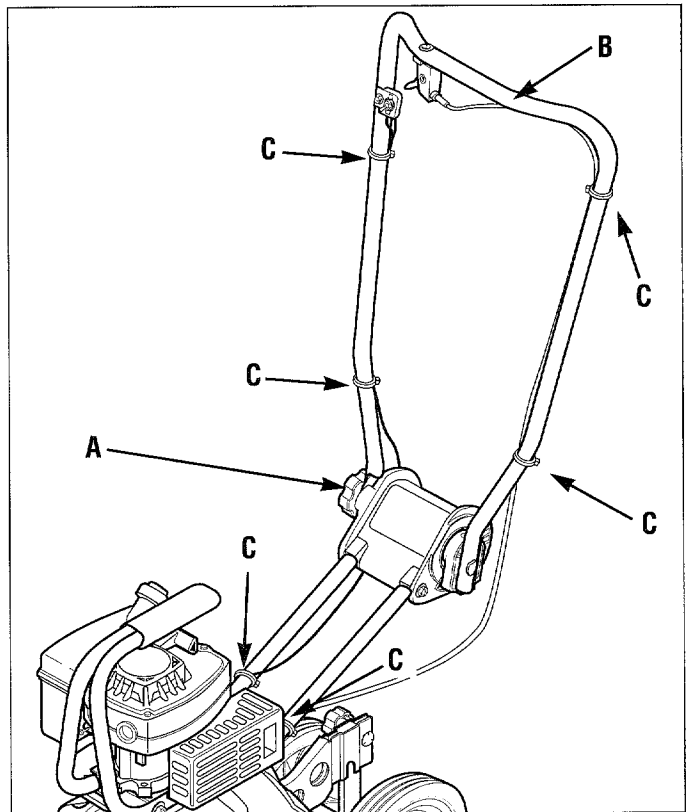

Figure 1: Loosen knob (A). Unfold handlebars (B). Slide plastic ties (C) to the locations shown.
- The unit was shipped with the handlebars folded over in the storage position. (Be careful when you move the upper handlebar not to pinch the control cables running alongside the handlebars. Push the cables out and away before swiveling the handlebar.) Loosen the handlebar knob (A, Figure 1) and carefully unfold the handlebars up into the operating position. Do not force the handlebar — if it does not move freely, continue to loosen the knob.
- Check the locations of the plastic ties (C, Figure 1) which secure the control cables to the handlebars. The ties must be positioned as shown in Figure 1.